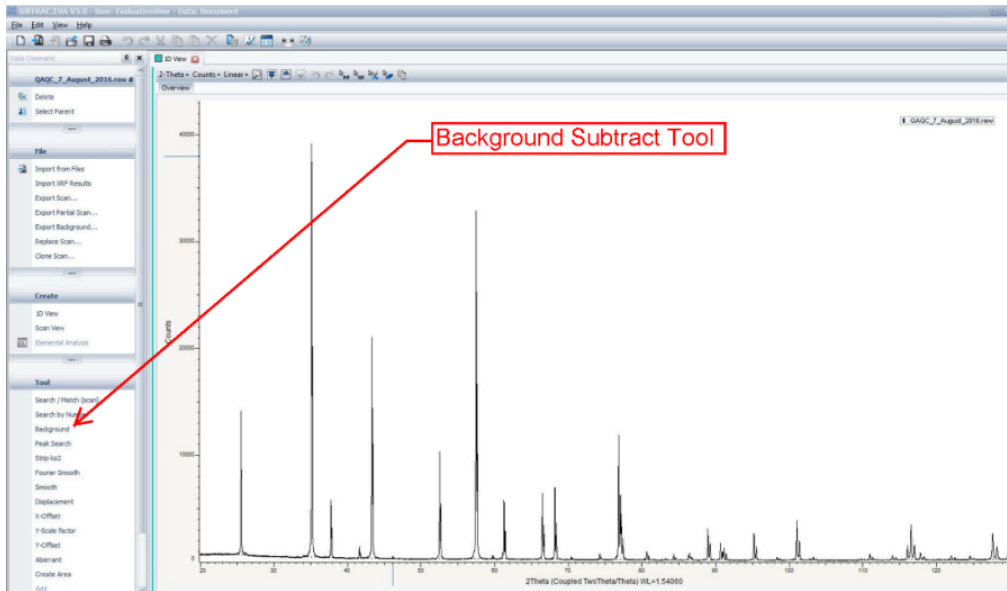

Figure 29: EVA diffractogram.
2. Subtract the background (do not append, just simply close background menu) (*Figure 29*).